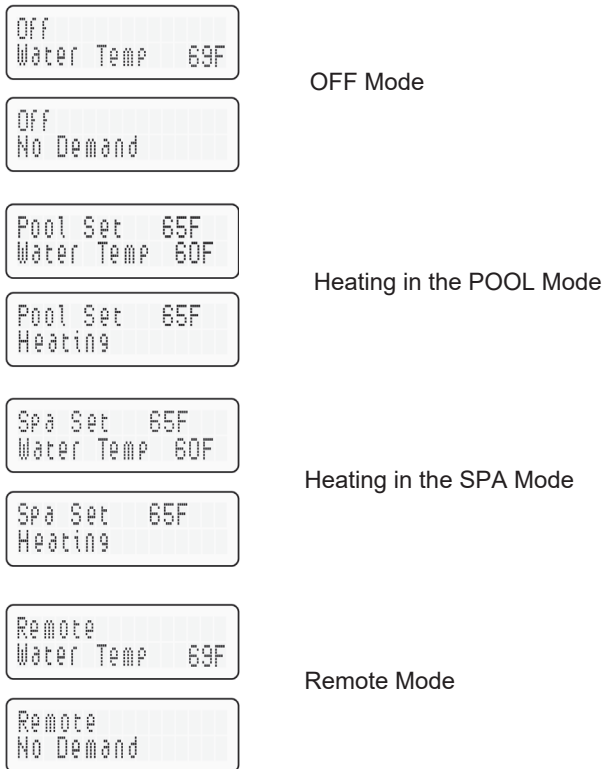

Figure 38. Remote Control Menu - Remote Operation
**CAUTION:** Before installing remote controls to the heaters, read the following: The heater is remote-ready in most cases. The digital liquid crystal display (LCD) shows the actual pool temperature, operating status, and service codes. See Figure 38. The touch pad on the control panel allows you to select the desired pool or spa temperature. It also indicates when a remote system is controlling the heater by displaying **Remote** in the display. When connecting the heater to a remote system, identify whether it is a two- or three-wire remote system. Select the appropriate instruction listed below to properly install the remote to the heater.